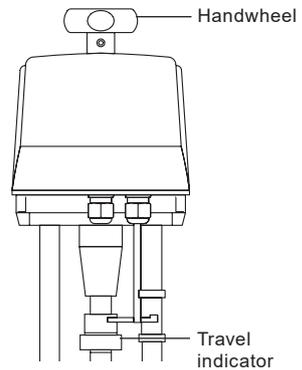

Fig. 6
1. For the electric actuated control valve, use the manual override on top of the actuator to raise and lower the actuator spindle between the two travel indicators located on the side of the pillar (Figure 6). Siemens electric valves can be manually opened by pressing and turning the handwheel clockwise.